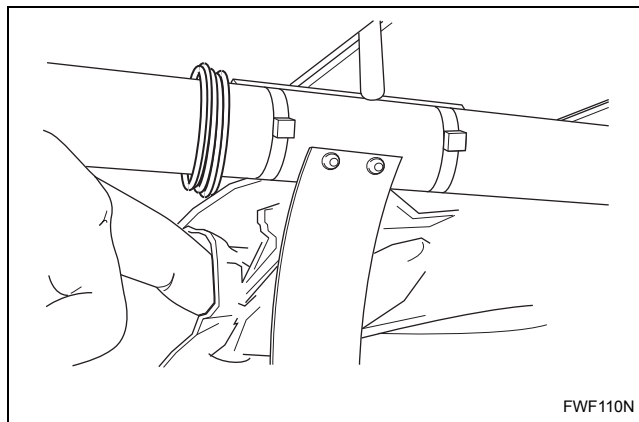

Figure 14
- b. Remove protective paper manually. Be especially careful around separation blade and temperature sensor. Refer to *Figures 14, 15 and 16*.